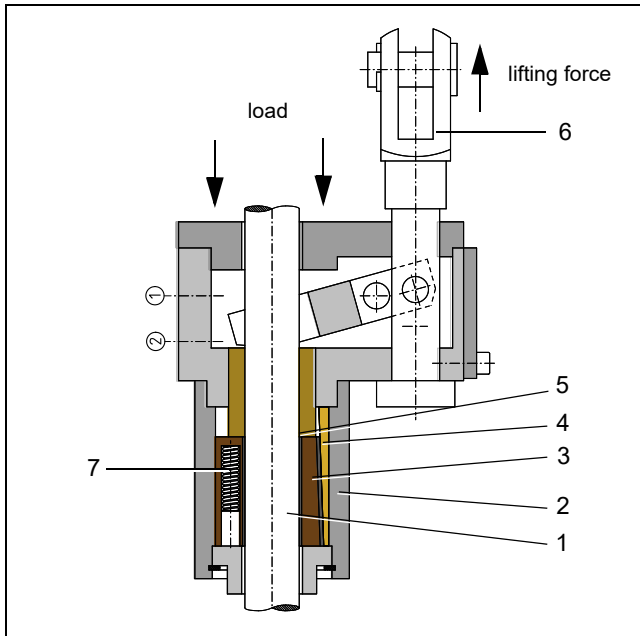

Fig. 2: Safety Catcher KRM (clamping released)
The piston rod or clamping rod (1), Fig. 2 is surrounded by the housing (2), Fig. 2 in which several wedged clamping jaws (3), Fig. 2, each with one slide lining (4), Fig. 2 and one brake lining (5), Fig. 2 are assembled. The tensile force of the lifting member acting on the anchor bolt (6), Fig. 2 via a lever keeps the clamping jaws released. The springs (7), Fig. 2 are compressed in this position.